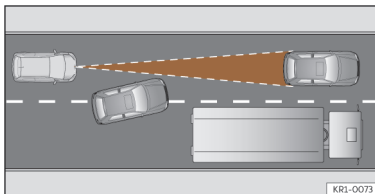

Fig. 141 Vehicle changing lanes.
- Vehicles that move into your lane, a short distance from your vehicle >>> **Fig. 141.**